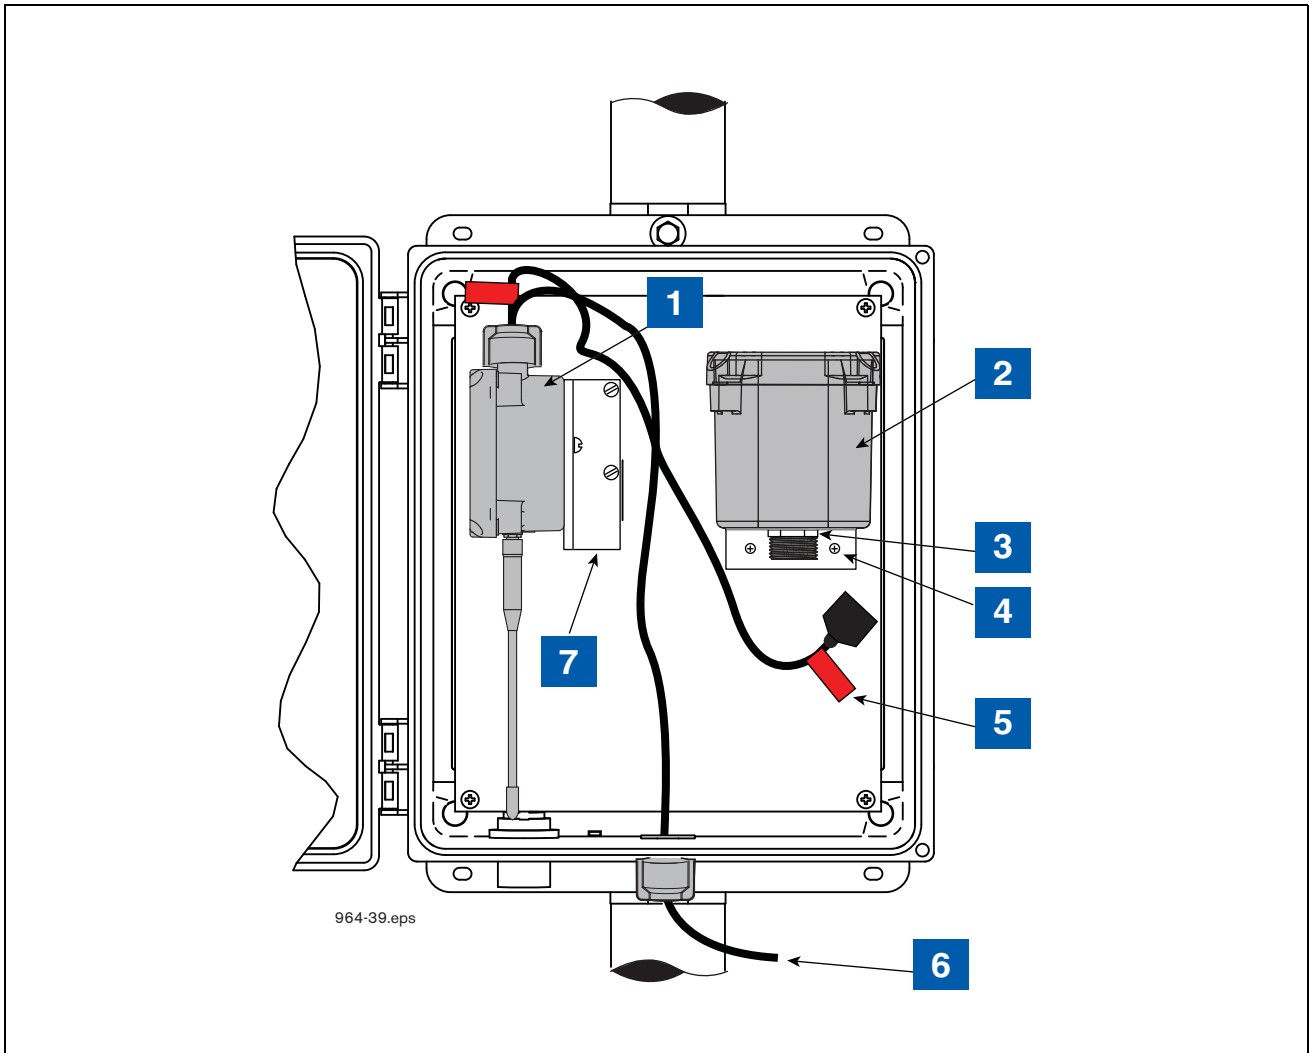

Figure 16. Example CCVP transmitter/battery pack installation in vent stack enclosure
6. Get the thin hex nut from the kit and screw it onto the battery housing cable connector threaded fitting until snug (see item 3 in Figure 16).
7. Attach the battery housing/bracket assembly to the back mounting surface of the enclosure using two #10 taptite screws from the kit (see item 4 in Figure 16).
**LEGEND FOR NUMBERED BOXES IN Figure 16**